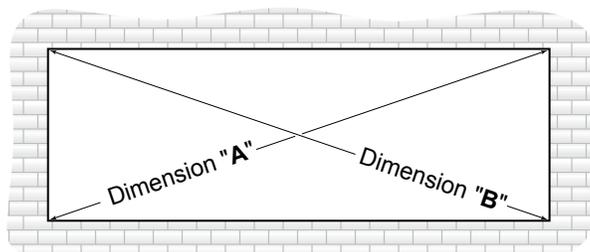

Fig. 19.1 Dimension "A" = "B"
- A. Make sure the opening is square and plumb. Measure each diagonal of the opening. **SEE Fig. 19.1.**